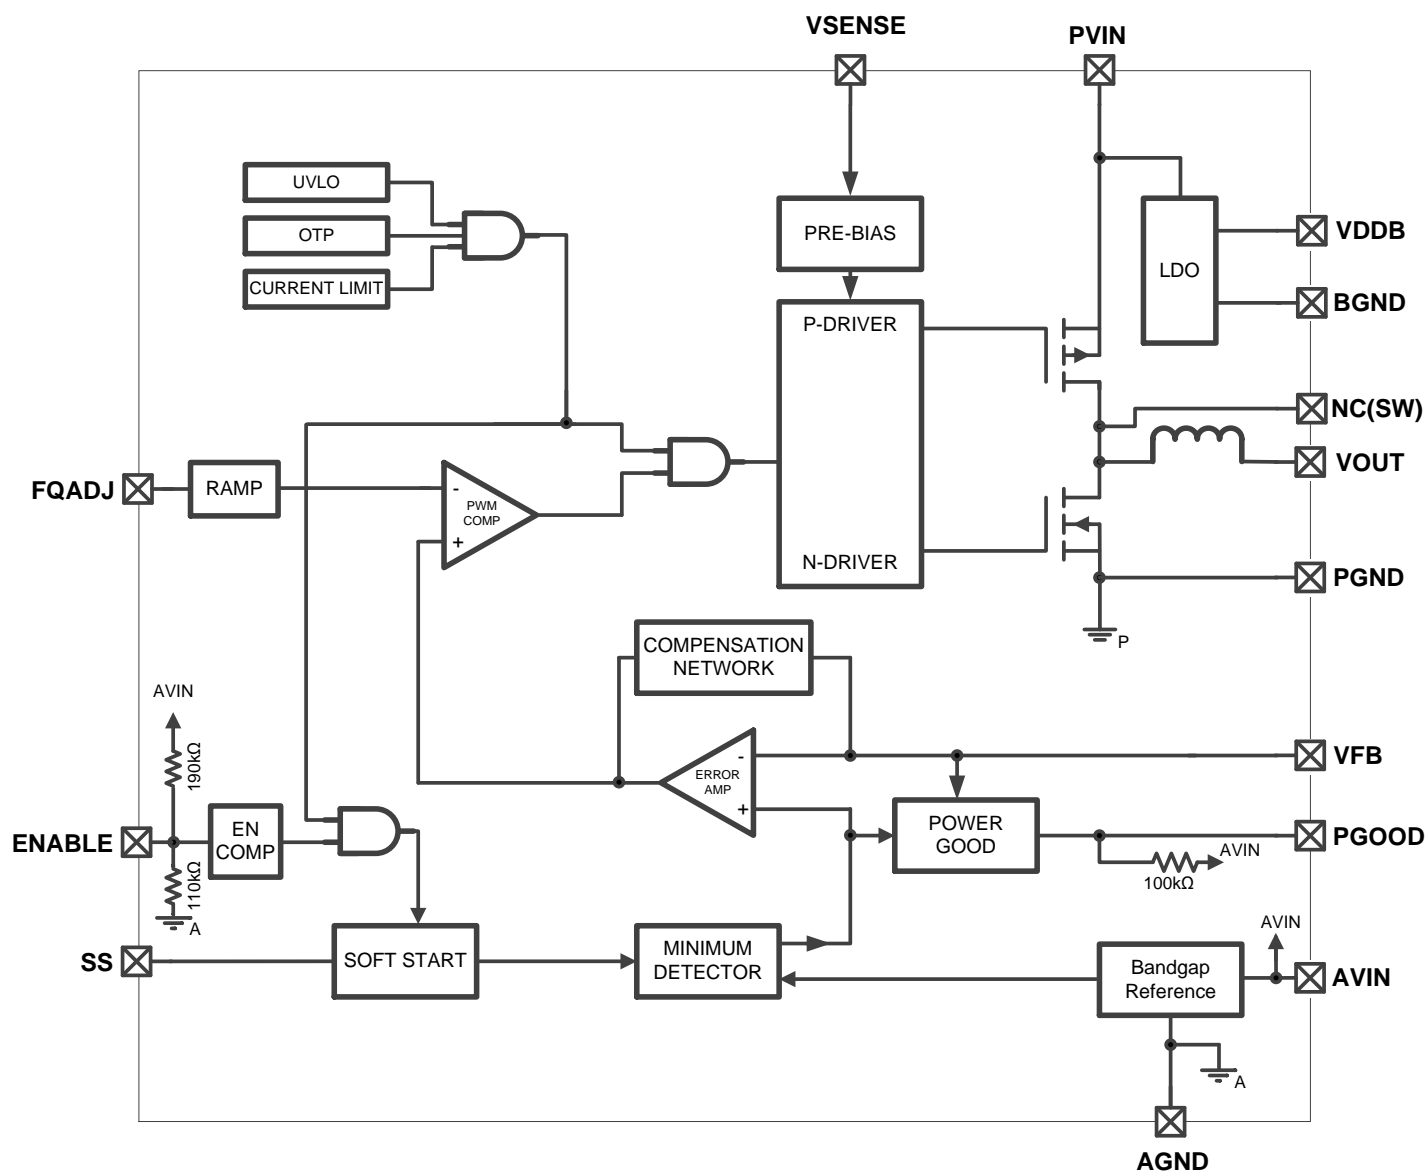

Figure 4: Functional Block Diagram
The SS pin, in conjunction with a small external capacitor between this pin and AGND provides the soft-start function, designed to limit in-rush current during start-up. When the part is enabled, soft-start (SS) current generator charges the SS capacitor in a linear manner. As long as the SS voltage level is smaller than the feedback reference (about 0.6V) the SS voltage is used as feedback reference, ensuring a linear increase of the output voltage. Once the voltage on the SS capacitor reaches 0.6V, the minimum detector (**Figure 4**) will select the bandgap reference as target, while the voltage across the SS capacitor will continue ramping up until it reaches about 1.5V. As the SS voltage slew rate depends on the SS capacitor, so does the output voltage.